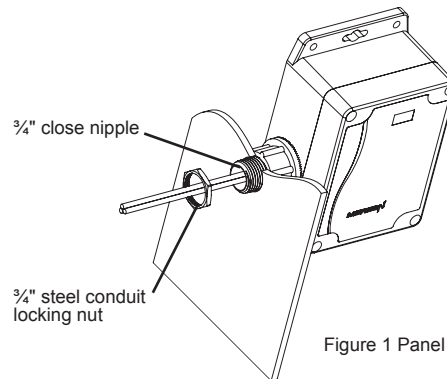

Figure 1 Panel Mount
3. Insert a 3/4" close nipple to the Myers Hub provided and attached to the Surge-Trap® SPD. Insert SPD wires carefully through the knockout hole. Tighten a 3/4" steel conduit lock nut to secure the SPD to the enclosure (as shown in Figure 1).